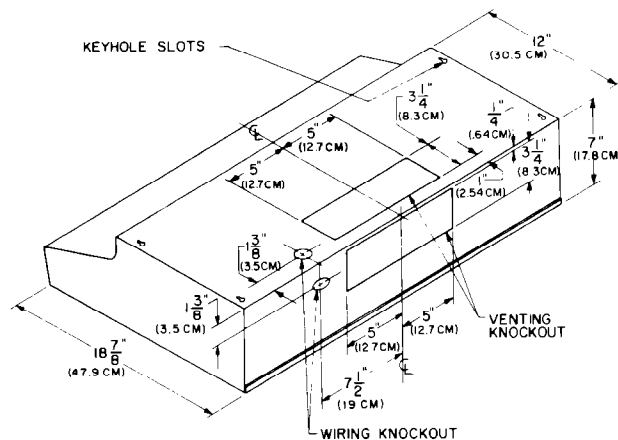

FIG. 1
1. Mark locations for ventilating duct and electrical wiring from dimensions given in figure 1.